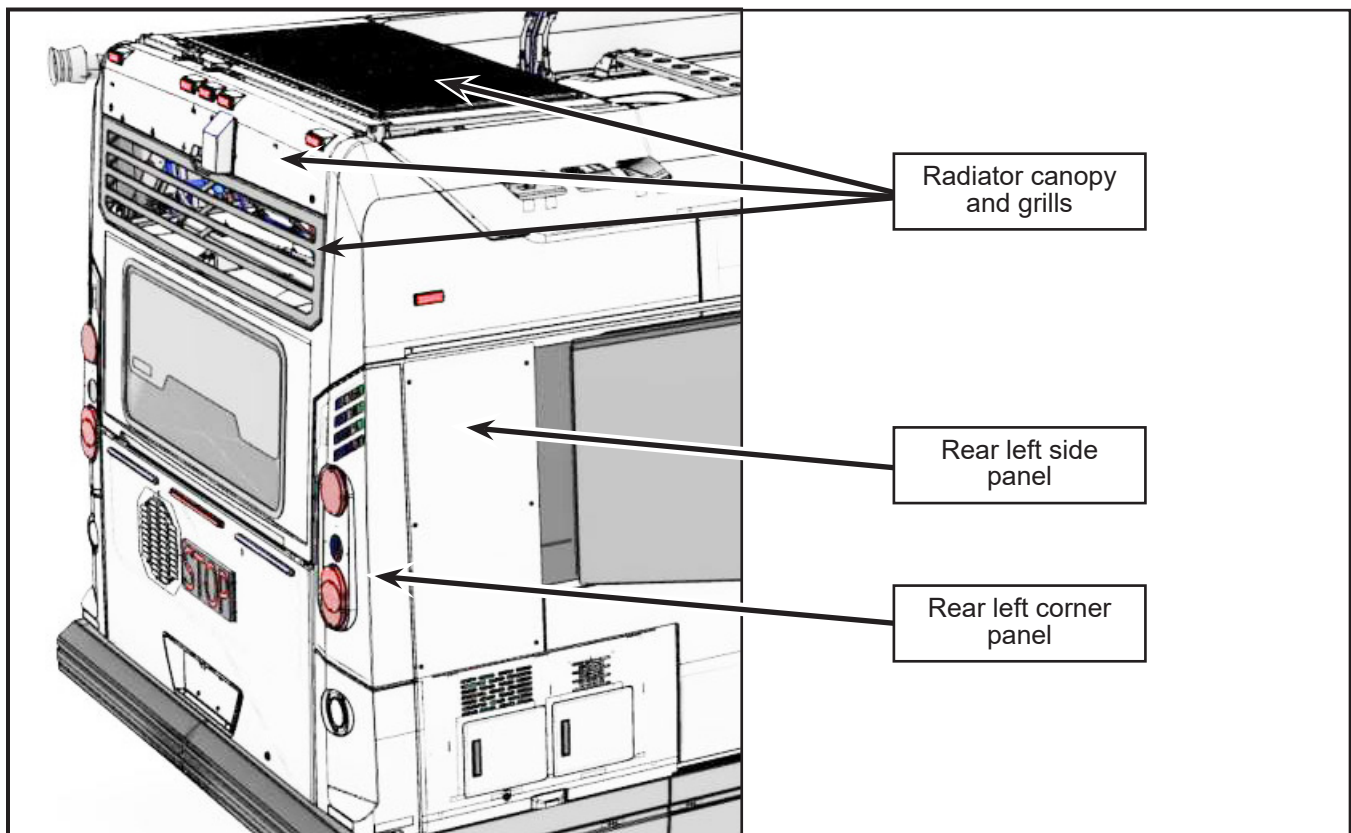

Figure 18 - Components to Remove to Access Pipe N81043-01
2.3.1. Outside the vehicle, to access pipe N81043-01, remove the following components (see Figure 18):